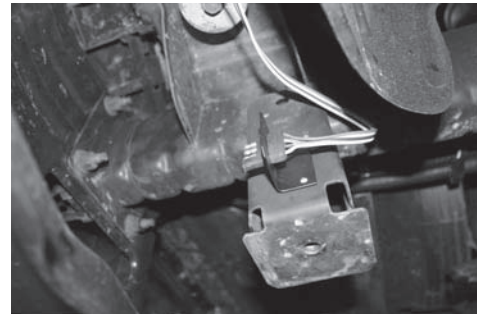

Figure 6
11. Locate the front frame rail that goes across the front of the vehicle. Locate a suitable position to mount the 4-Flat bracket shown in **Figure 6**. Using the bracket as a template mark the two holes and drill two 3/32" holes and attach the bracket using the two remaining screws. ***Caution: Take care not to drill through the body or any exposed surface.***